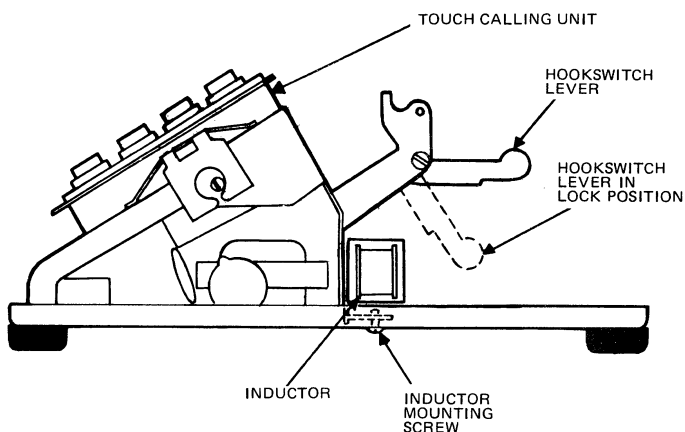

Figure 1. Mounting Inductor in Type 80 Telephone.
3.02 To mount the inductor and bracket assembly (D-284686-C) in a Type 80 telephone to provide a 2,650-ohm inductive mark, refer to Figure 1 and proceed as follows: